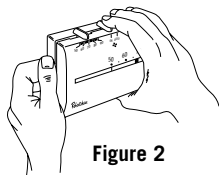

Figure 2
2. Remove cover by grasping side and gently pulling outward (Figure 2).